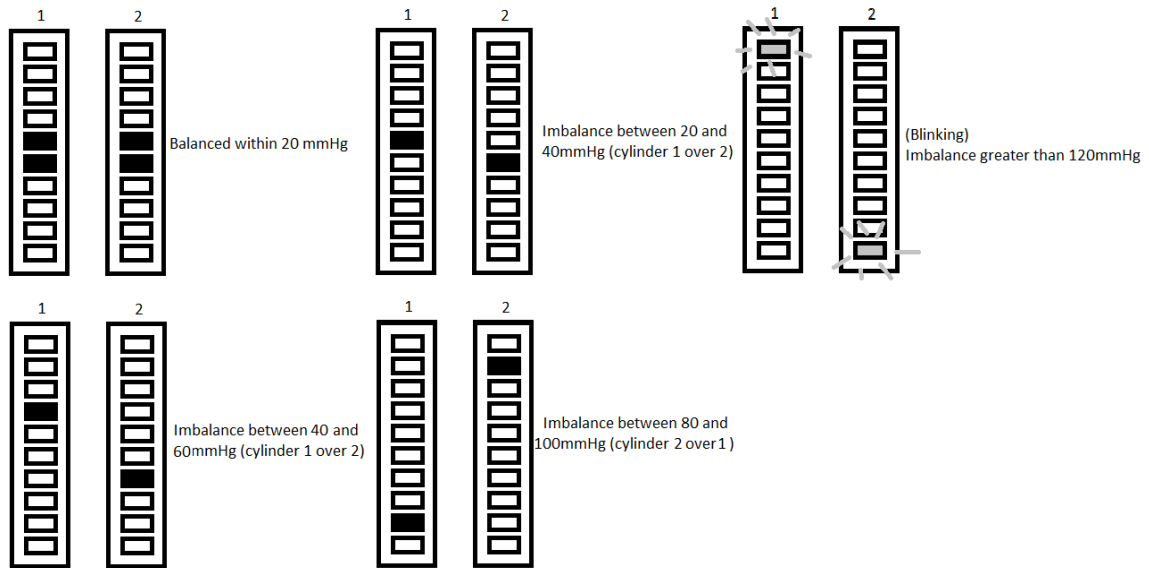

Figure 3 - Examples of Bar Display indications
The SynchroKing 2S Mk2® calculates the average value of all active channels and compares the individual value of each channel to this average. The deviation from average is displayed on the bar graph of the channel. Each bar represents 20 mmHg vacuum differential, whereas the two middle being lit indicate a pressure differential of less than 20mmHg (i.e the vacuum being practically the same in both manifolds). See Figure 3 for examples.
7. With the throttle fully closed, adjust, as necessary, the stationary adjuster screw on the carburettor or throttle valve body, until the bar displays equal vacuum in both inlet manifolds. (See Figure 3).